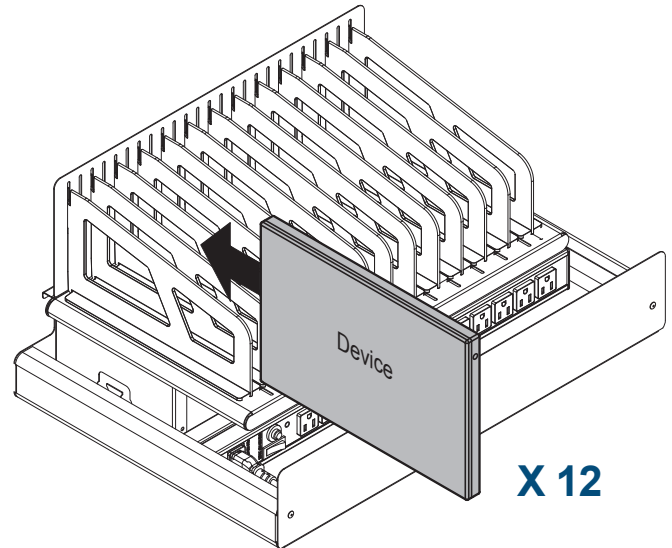

Figure 4
1. Place devices into bays with the charge plug accessible on top or front. **Figure 4.**